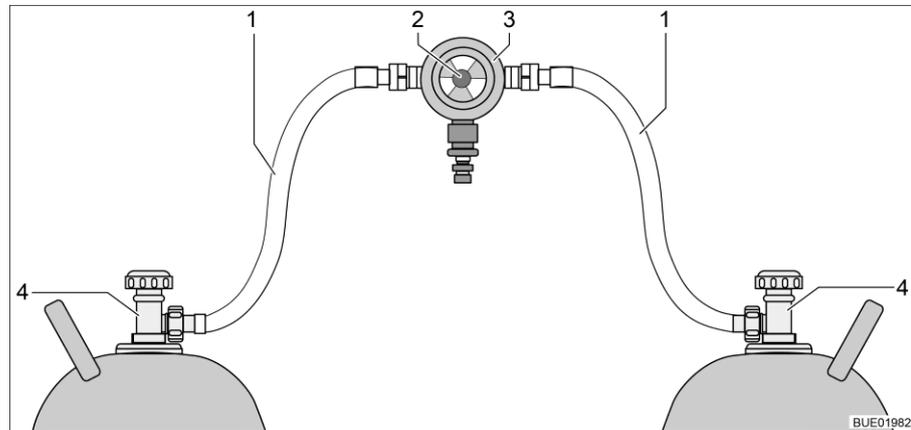
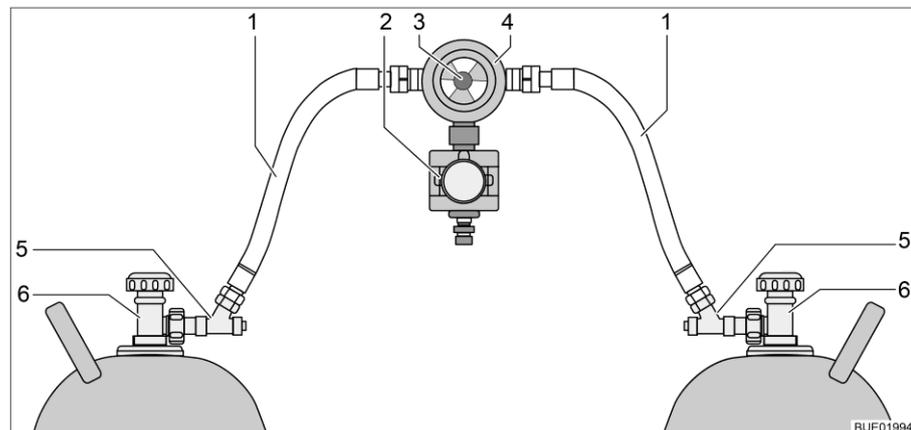

Fig. 111 Gas bottle switching facility
Fig. 112 Gas bottle switching facility with CPU
The gas bottle switching facility consists of a combined gas pressure regulator with reversing valve and indicator (Fig. 111,3). The gas bottle switching facility is installed between the two gas tubes (Fig. 111,1).
The gas bottle switching facility consists of a combined gas pressure regulator with reversing valve and indicator (Fig. 112,4), and an electrovalve (Fig. 112,2). The electrovalve blocks the gas supply to the vehicle in the event of a full braking, an accident, or an unusually great inclined position. The gas bottle switching facility is installed between the two gas tubes (Fig. 112,1) with hose break guards (Fig. 112,5).
Function The gas bottle switching facility ensures a constant gas pressure, regardless of which gas bottle is being drawn upon. The display in the reversing valve shows the filling level of the primary bottle. The gas supply comes from the primary bottle when the display is green. When the display is red the primary bottle is empty. In this case, the reserve bottle is used for the gas supply. Use the knob (Fig. 111,2 or Fig. 112,3) on the gas bottle switching facility to select which of the gas bottles is to be used as a primary bottle and which is to be used as a reserve bottle.
Only the electrical functions can be switched at the operating unit (Fig. 113). The regulator taps on the gas bottles (Fig. 111,4 or Fig. 112,6) must be opened and closed manually.
- Open the regulator taps of the gas bottles (Fig. 111,4 or Fig. 112,6).
- Press the hose break guards (Fig. 112,5) successively for 10 seconds.
- Use the knob (Fig. 111,2 or Fig. 112,3) on the switching facility to select the gas bottle which is to be the primary source of gas (primary bottle). Always turn the knob as far as it will go.
- Close the regulator taps of the gas bottles (Fig. 111,4 or Fig. 112,6).